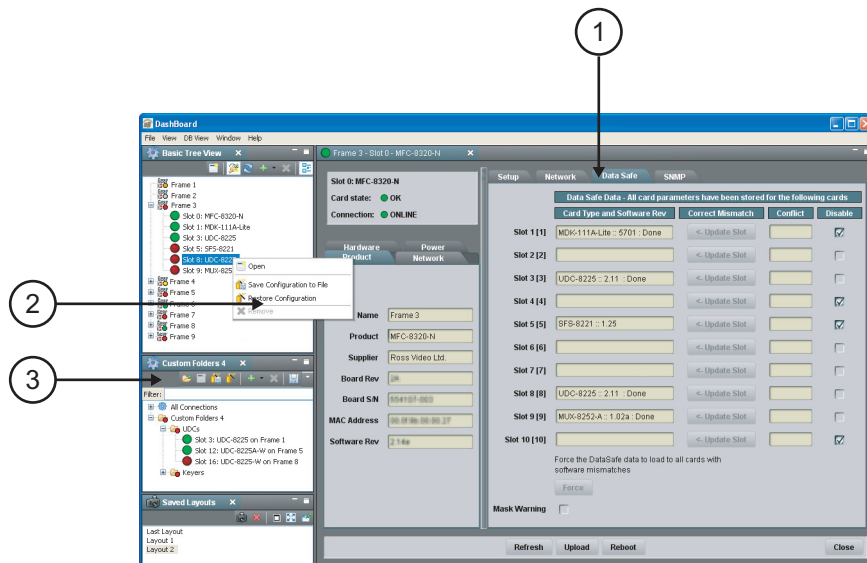

Figure 5.1 DataSafe Tab Overview
- **Card Type and Software Rev** fields — This area indicates the card installed in the slot and the software version. The information is displayed in the form of **xxxx :: ##### :: y** where **xxxx** represents the card type, **#####** represents the software revision, and **y** represents the card status. If the field is blank, there is no saved data for this slot. For example, in Slot 3 of **Figure 5.1**, the UDC-8225 is running with software version 2.11 while Slot 2 does not have a card installed.